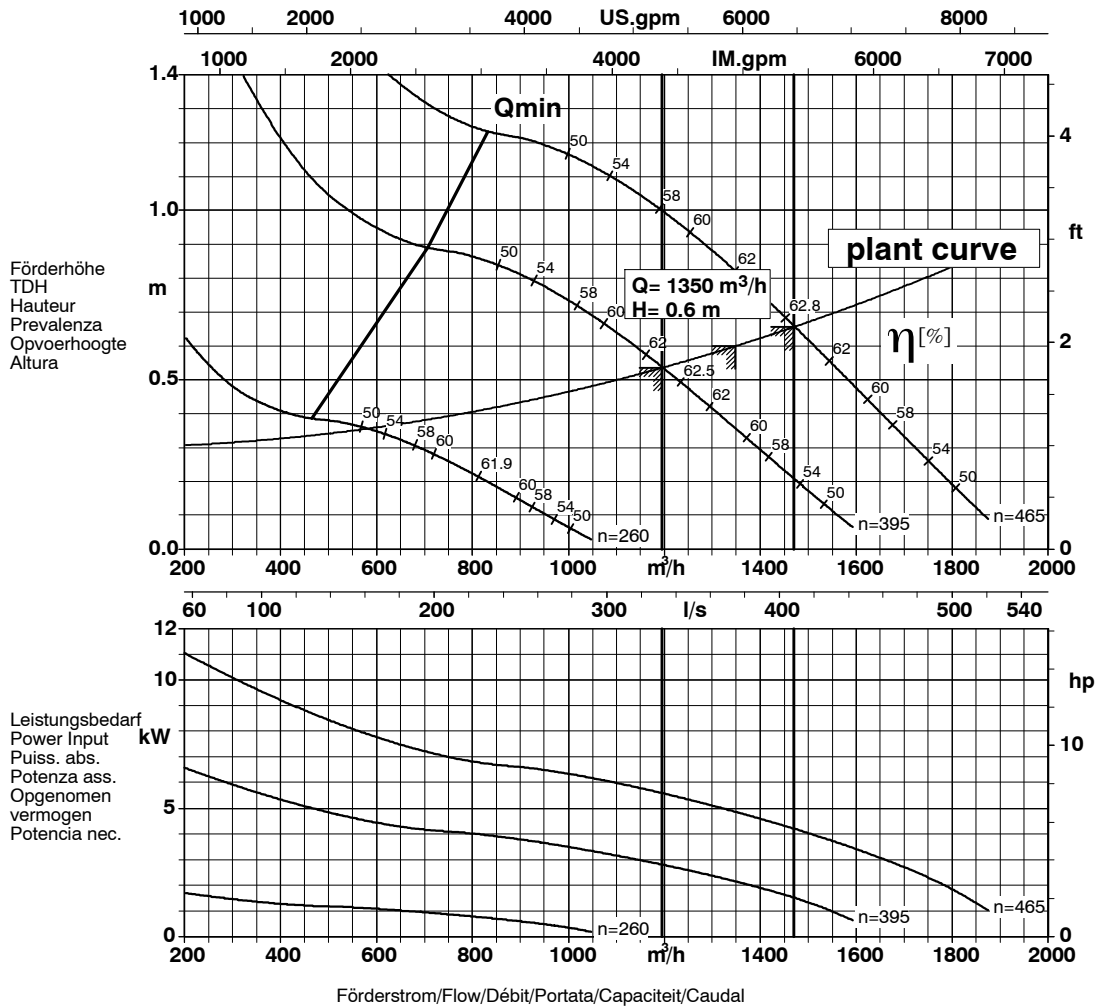

Fig. 3: Selection charts speed Amaline P ...-502
5) Duty point = design point (acc. to fig. 3)